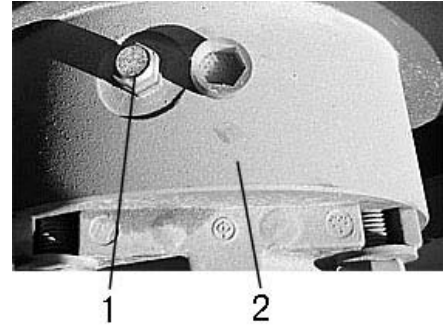

Figure 3-7
3.4.1.6 Verify the vent plug (figure 3-7)